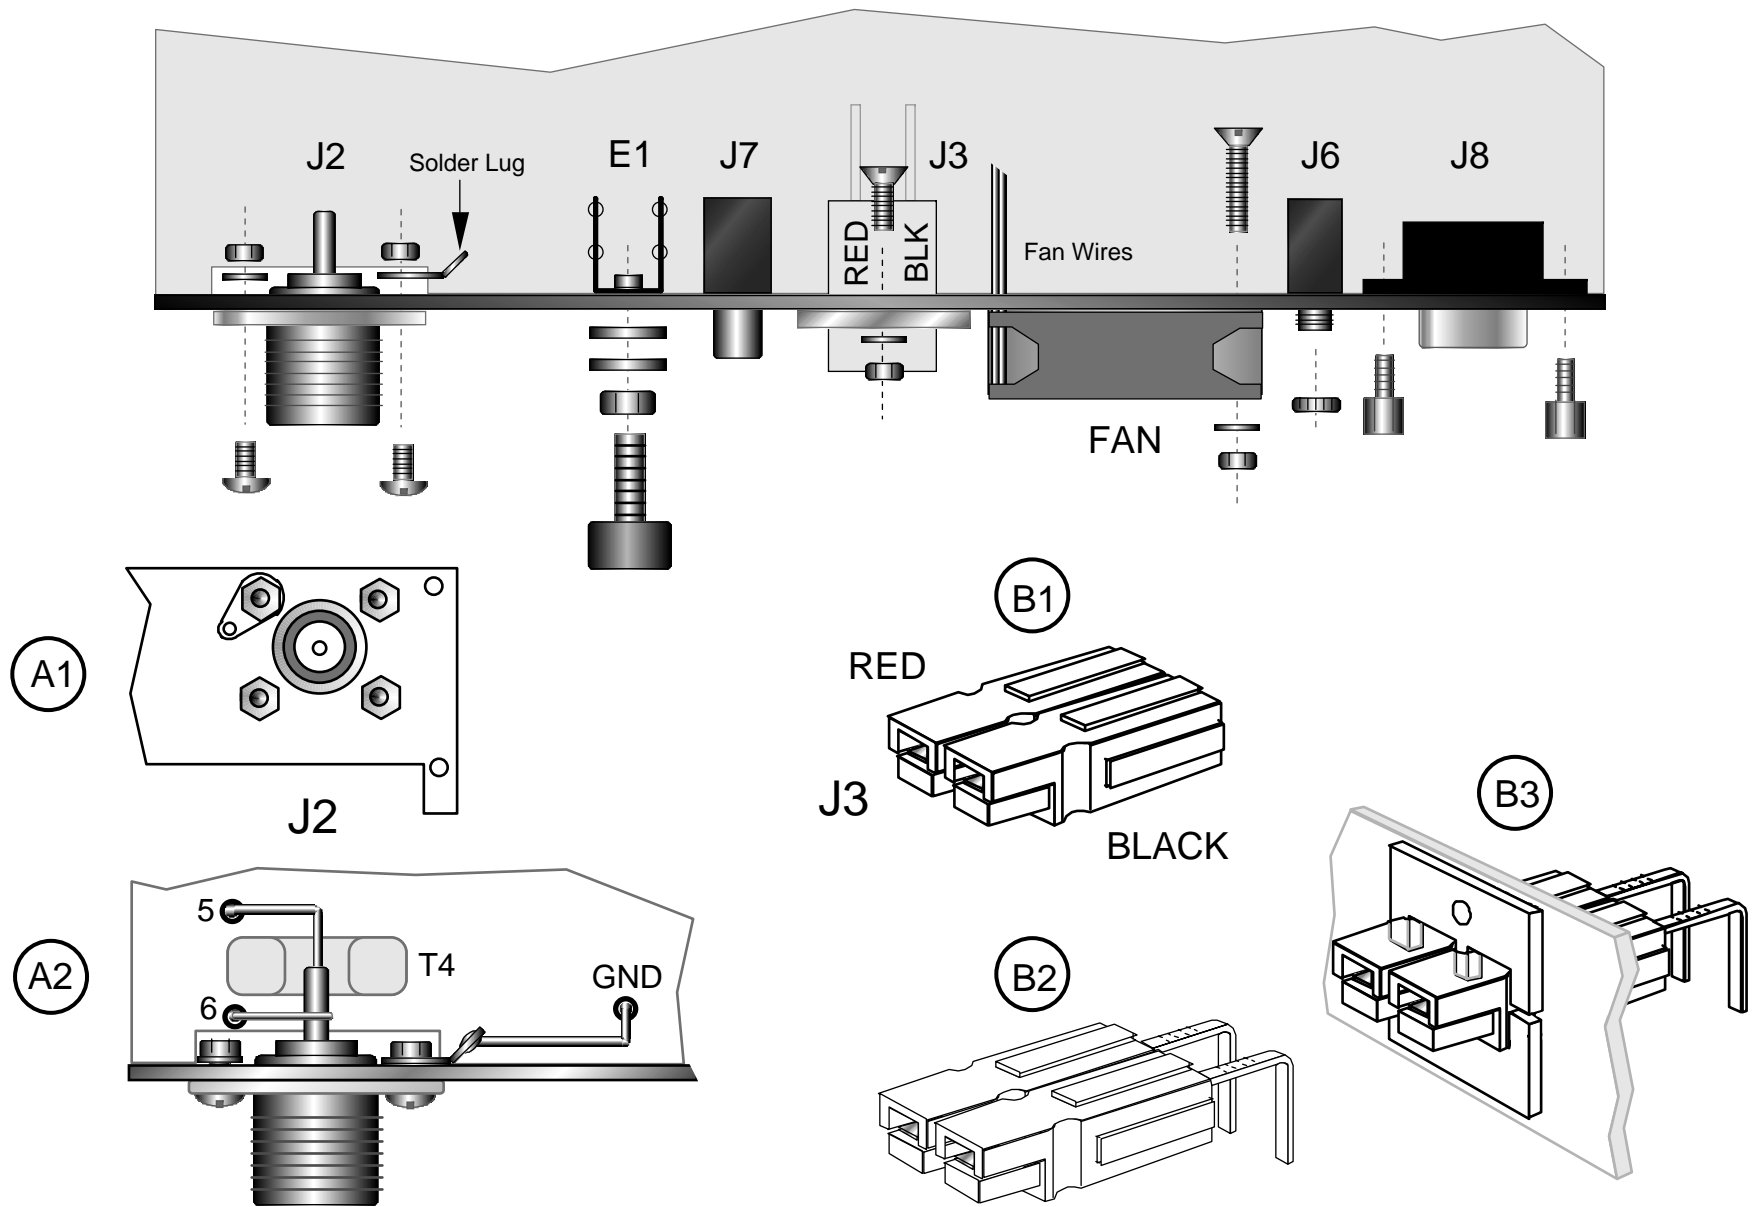

Figure 24
Figure 24 (page 31) shows the connectors and other hardware that will be attached to the rear panel in the following steps. The antenna jack (J2), DC power jack (J3), and fan will be secured to the panel first, then the rear panel assembly will be attached to the KPA100 PC board.
Place the antenna jack, J2 (SO239) in its position on the rear panel as shown in Figure 24. **The connector's square flange goes on the outside of the panel (the side with the labeling), not the inside.**
Attach J2 to the rear panel as shown in Figure 24. Use four 4-40 x 1/4" (6.4 mm) pan head screws, one solder lug, **three** #4 split lock washers, and four 4-40 nuts. As shown in Detail A1, the solder lug takes the place of one lock washer. The lug must be installed on the screw nearest the top edge of the rear panel. **Do not overtighten the hardware.**
- Locate two DC input connector housings, one red and one black. Hold the two connectors in the orientation shown in Detail B1 of Figure 24. Look closely at the sides of the connectors. Each has a small tongue on the right side, and a groove on the left.
- Use two E-shaped brackets to hold the housings in place, as shown in Detail B3 (one from above, one from below). Secure the brackets to the rear panel using two 4-40 x 1/4" (6.4 mm) flat head screws, two #4 split lock washers, and two 4-40 nuts. This hardware is shown in Figure 24 (at top).
- Solder one end of the **red** wire to the center pin of the antenna connector (J2) as shown in Figure 24, Detail A2. Remove any excess solder from the outside of the pin using desoldering braid.
- Solder J2's wires to the points indicated in Detail A2 of Figure 24. The red wire goes to T4 pin 5, black wire to the pad labeled "GND" near E1, and bare wire jumper to T4 pin 6.